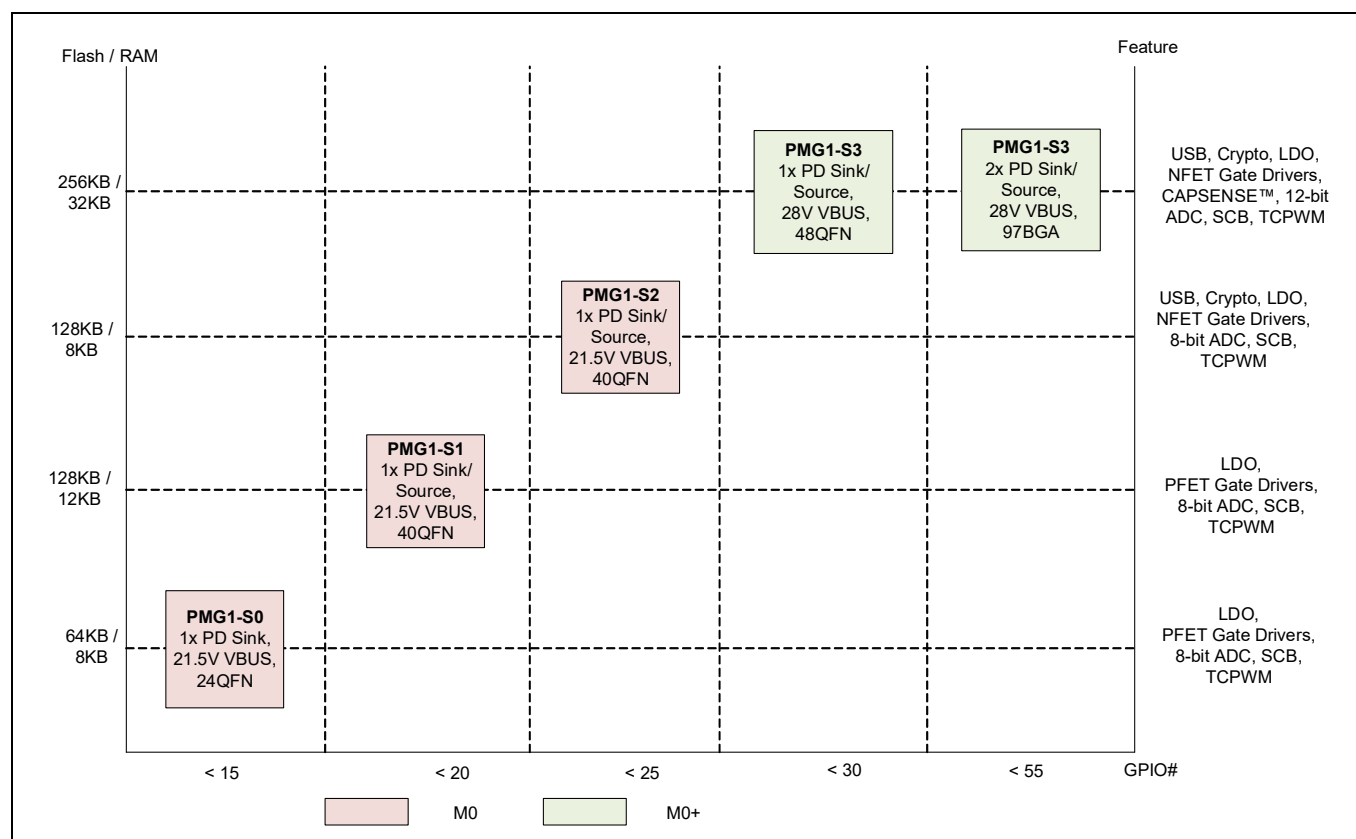

Figure 1 PMG1 family segmentation
EZ-PD™ PMG1 (Power delivery microcontroller Gen1) is a family of high-voltage USB-C power delivery (PD) microcontrollers (MCU). These chips include an Arm® Cortex®-M0/M0+ CPU and USB-C PD controller along with analog and digital peripherals. EZ-PD™ PMG1 is targeted for any embedded system that provides/consumes power to/from a high-voltage USB-C PD port and leverages the microcontroller to provide additional control capability. **Figure 1** shows the EZ-PD™ PMG1 family segmentation.